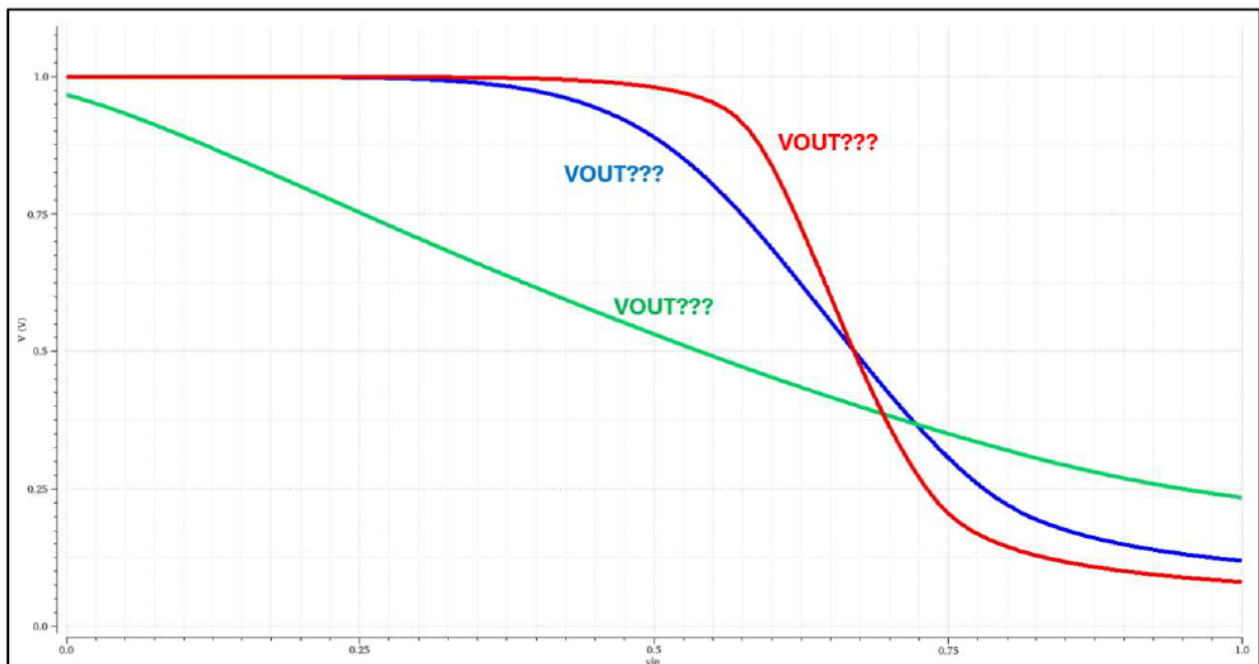

Figure 4. IN-OUT response of an amplifier with CS topology
- Using dc analysis, sweeping variable v_{in} from 0V to v_{dd} , step = 0.01V as shown in **Figure 2**. Plot IN-OUT characteristic curve as **Figure 4**.
- The Figure 4 depicts the IN-OUT characteristic curve.
- Using DC analysis, sweeping variable v_{in} from 0V to v_{dd} , step = 0.01V as shown in **Figure 2**. Plot IN-OUT characteristic curve as **Figure 4**.